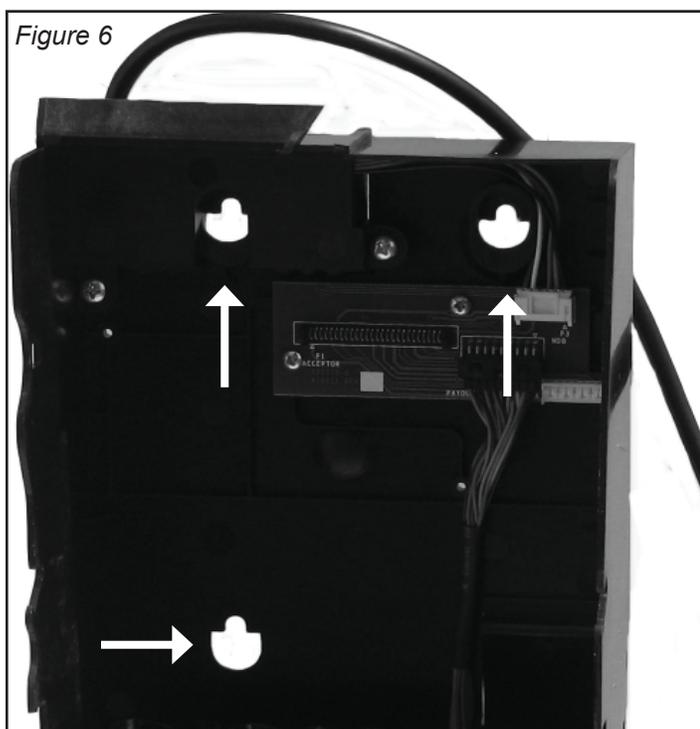

Figure 6
4. Set the three mounting holes in the back of the changer housing over the mounting screws in the vending machine (see Figure 6). Tighten securely by hand.